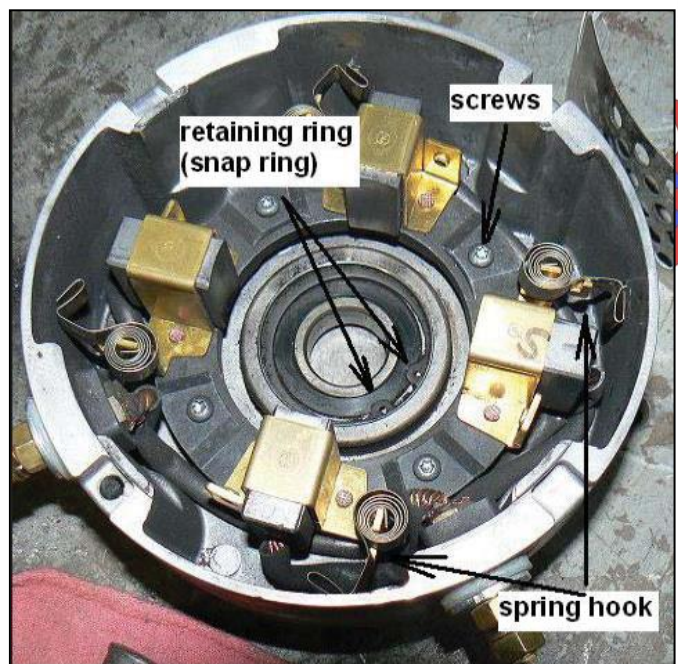

Figure 10-5
5. Move brush springs behind spring hooks shown in Figure 10-5.
8. Remove bearing retainer (snap ring) shown in Figure 10-5. Carefully press out the bearing from motor head. Replace the bearing.